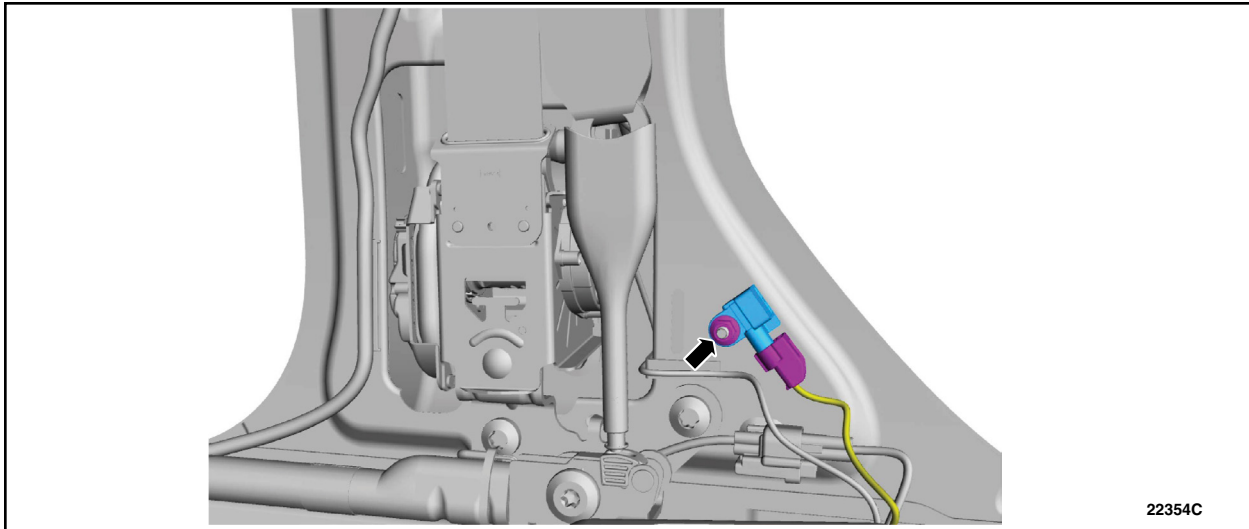

FIGURE 4
4. Install the *new* retaining nut. See Figure 4.